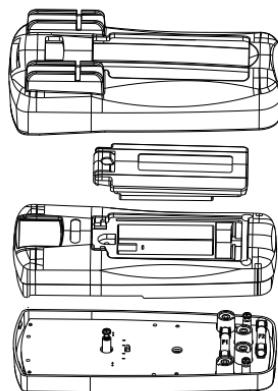

Figure 11
2. Replacements (see Figure 11)**Battery replacement:**